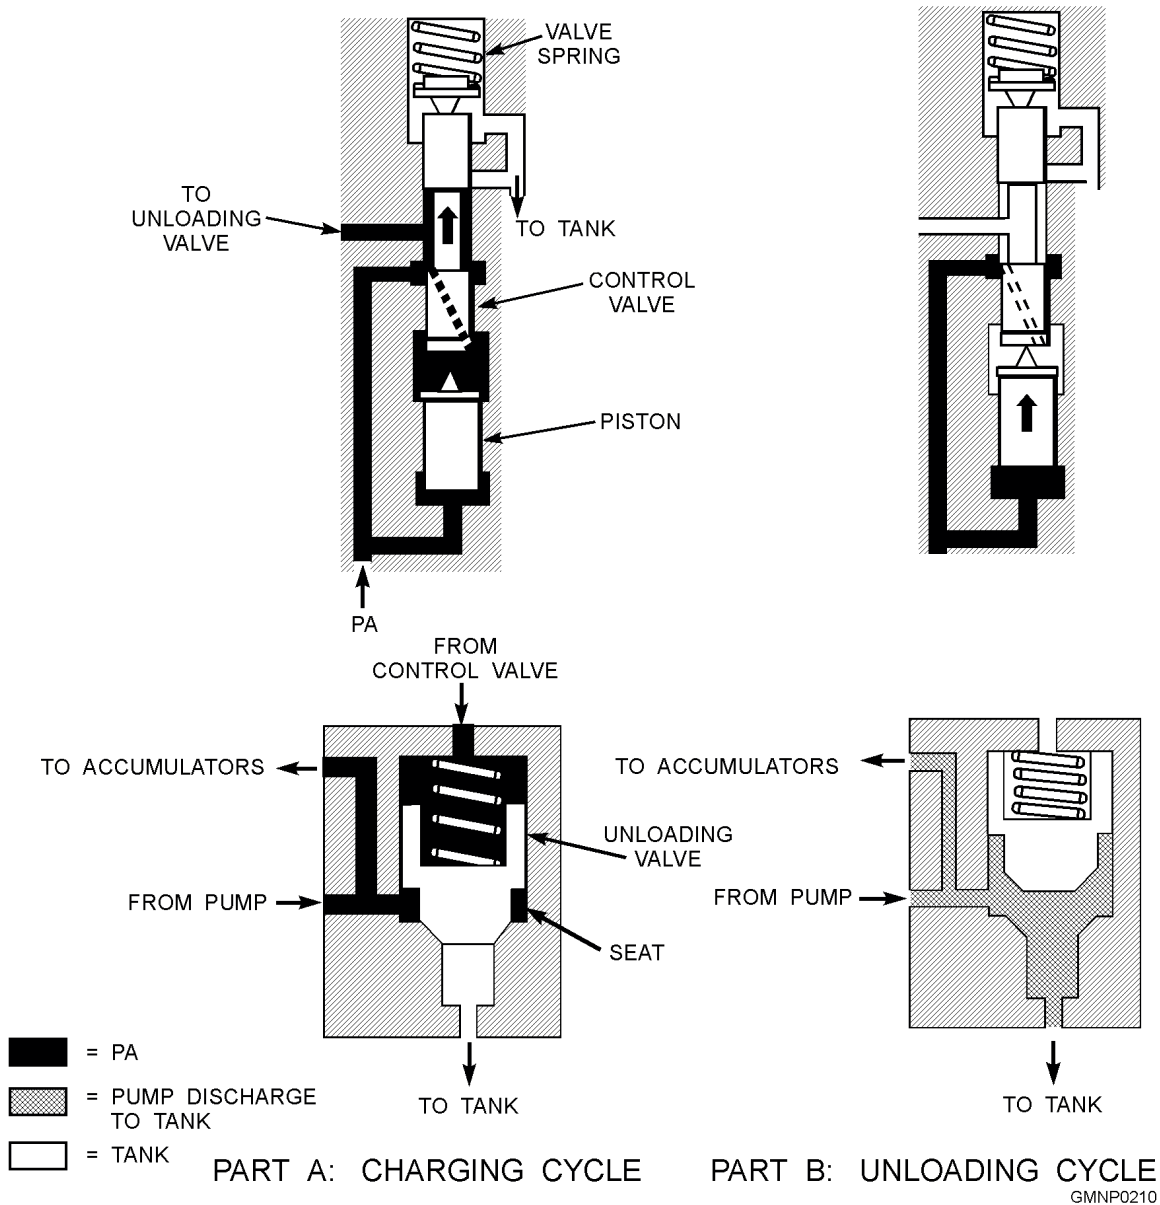

Figure 4-18.—Control and unloading valves.
The control and unloading valves shown in figure 4-18 are used to regulate the operating pressure in an accumulator power drive system. The operating range of the fluid pressure for the functional description that follows is assumed to be 950 psi to 1,050 psi.
During an accumulator charging cycle (fig. 4-18, part A), the spring holds the control valve in the DOWN position. A drilled hole through the lower land of the control valve ports system pressure (PA) from the accumulator to the chamber between the control valve and its piston. The piston has PA applied to both ends and, therefore, does not affect operation of the control valve during this portion of the cycle. However, PA is only applied to the lower end of the control valve. The position of the control valve is determined by the amount of pressure in the accumulator system. As the pressure increases, the valve moves upward against spring pressure.
As fluid pressure in the accumulator increases, it forces the control valve upward against its spring pressure. When the pressure reaches 1,050 psi, the lower land of the control valve blocks PA and the upper land uncovers the tank line (fig. 4-18, part B). This vents the pressure from the chamber between the control valve and its piston and from the large area side of the unloading valve.